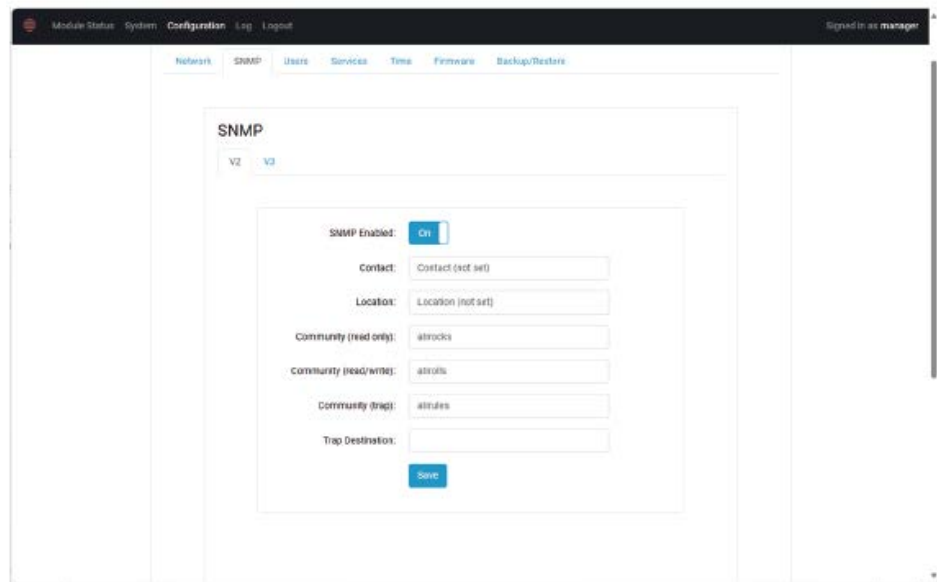

Figure 1. SNMP V2 Window
3. To configure the common SNMPv1, v2c, and v3 objects, select the **V2** tab. This is the default tab. Refer to Figure 1.